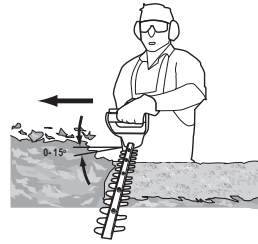

Fig. 7
7. After cutting the sides proceed to the top. Try to keep the cutting device angled at approximately  $15^\circ$  to the cutting surface (Fig. 7).